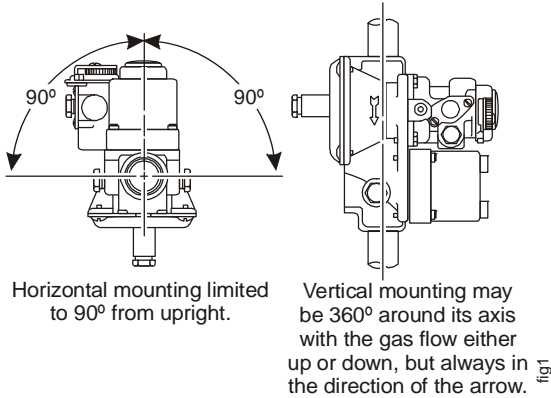

Figure 1: G93 Mounting Positions
6. Mount the G93 on a horizontal manifold with the magnetic operator pointed up (vertical) or in a position not exceeding 90° from vertical. The valve may also be mounted on a vertical manifold in any position around its axis (Figure 1).